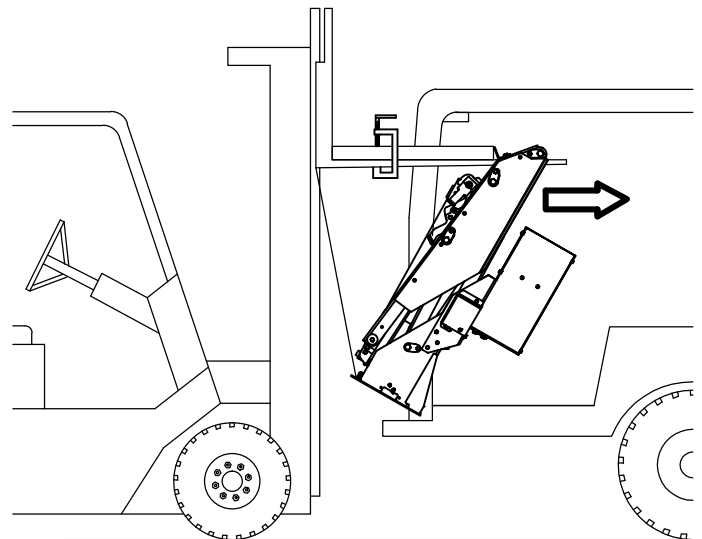

Figure 13: Drive into the back of the van until the bottom almost contacts the van floor.
5. **Drive** into the back of the van until the bottom of the liftgate almost contacts the van floor (Figure 13).